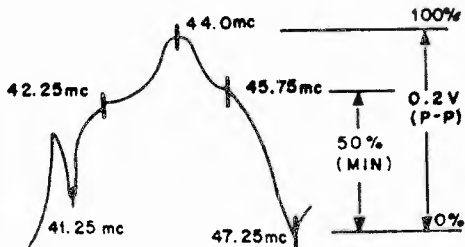

FIG. 8
18. Re-adjust generator output to produce a 0.2 volt P-P indication on the scope and observe the response. The curve obtained should conform to Fig. 8.